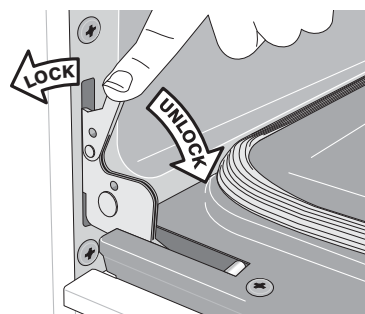

Figure 43: Hinge lock/unlock positions
2. Pull the door hinge locks on both left and right door hinges down from the oven frame completely towards the oven door (See Figure 43). A tool such as a small flat-blade screwdriver may be required.
4. Push the door hinge locks up towards and into the oven frame on both left and right oven door hinges to the locked position; then, close the oven door (See Figure 43).